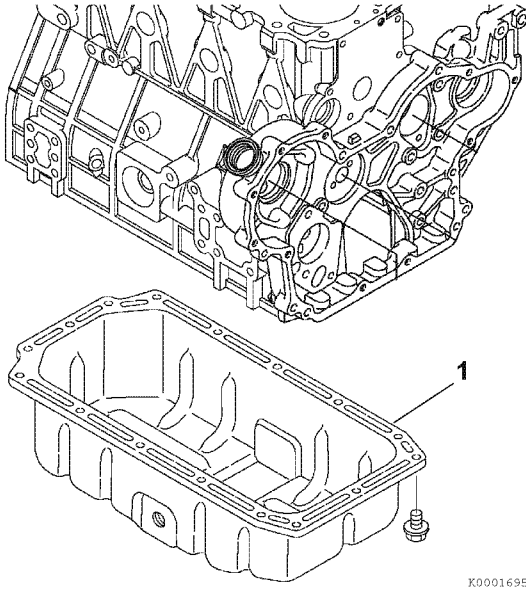

Figure 6-47
2. Remove the oil pan (**Figure 6-47, (1)**).